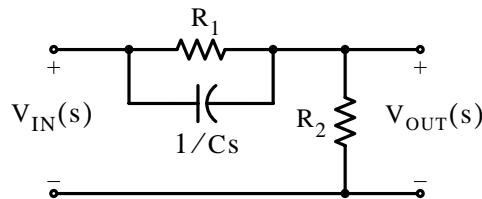

Figure 5.20. The s-domain equivalent circuit of Figure 5.19
- a. The s-domain equivalent circuit is shown in Figure 5.20.